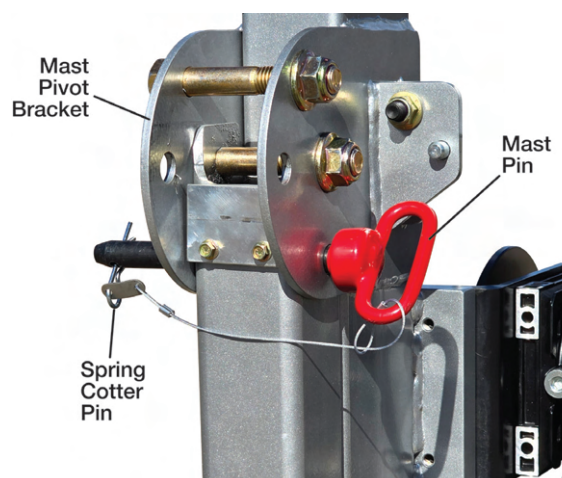

Figure 7-35: Removing Mast Pin
6. Remove the spring cotter pin and mounting pin from the mast pivot bracket (see Figure 7-35).